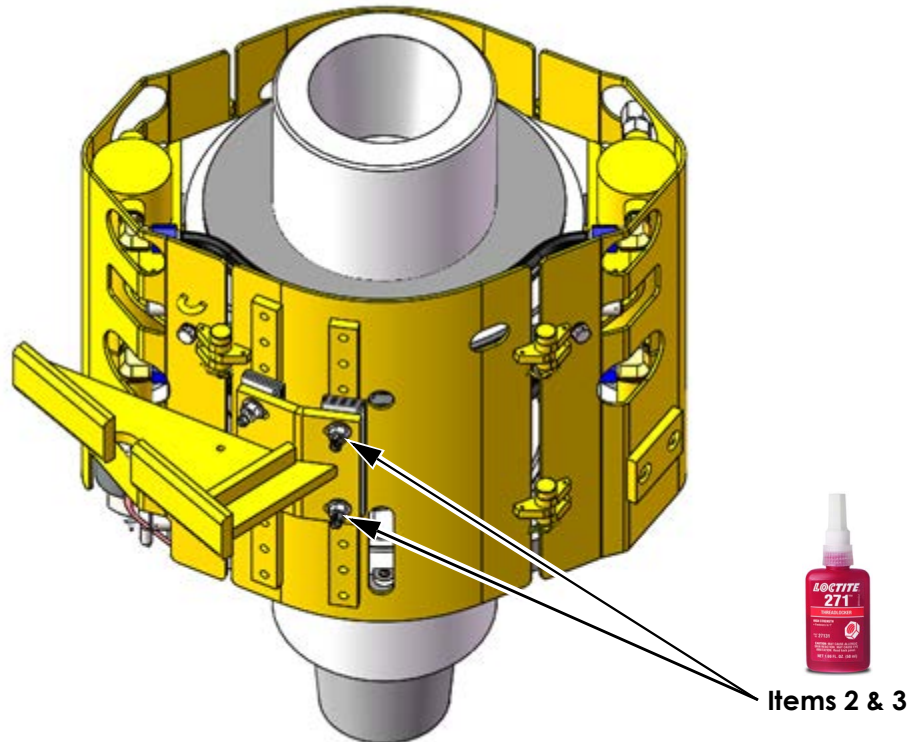

Figure 3: Anti-Rotation Bracket Installation
8. Apply Red Loctite® #271 to Qty. 4 of Item 2 (HN-0375NC-GR8). Install Item 2 and Item 3 (LW-0375-NL-SP) onto the threaded studs as shown in Figure 3. Torque to 40 ft-lb (54 N-m).